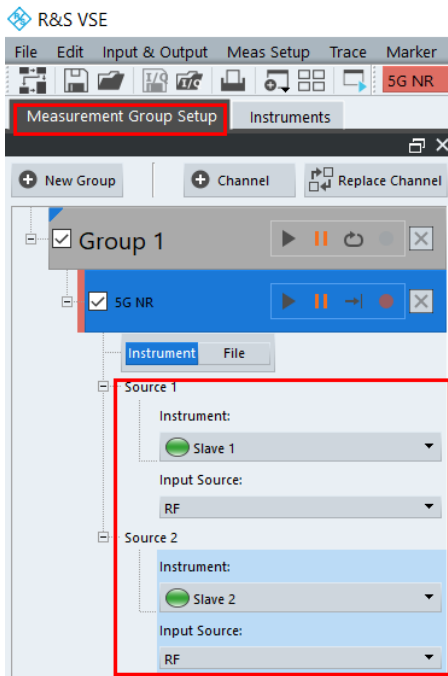

Fig. 4-11 Instrument and input source mapping with NRQ6
9. After the above steps are completed, close the window will save the settings automatically. In the "Measurement Group Setup" tab, the applied instrument, its associated number of source, with which the physical input source is assigned is shown in Fig. 4-11. The mappings in our example case looks like follows: